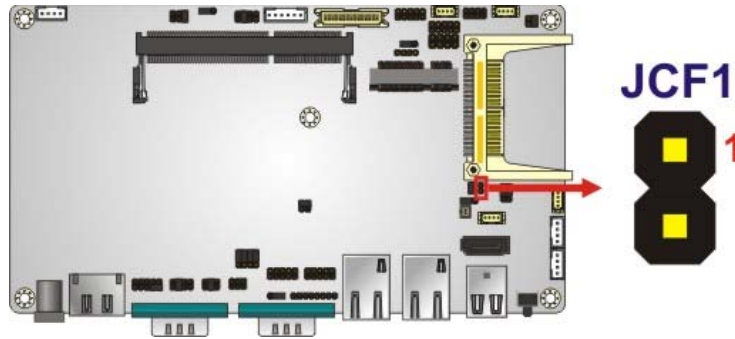

Figure 3-13: CompactFlash® Setup Jumper Location
- Jumper Location:** See Figure 3-13